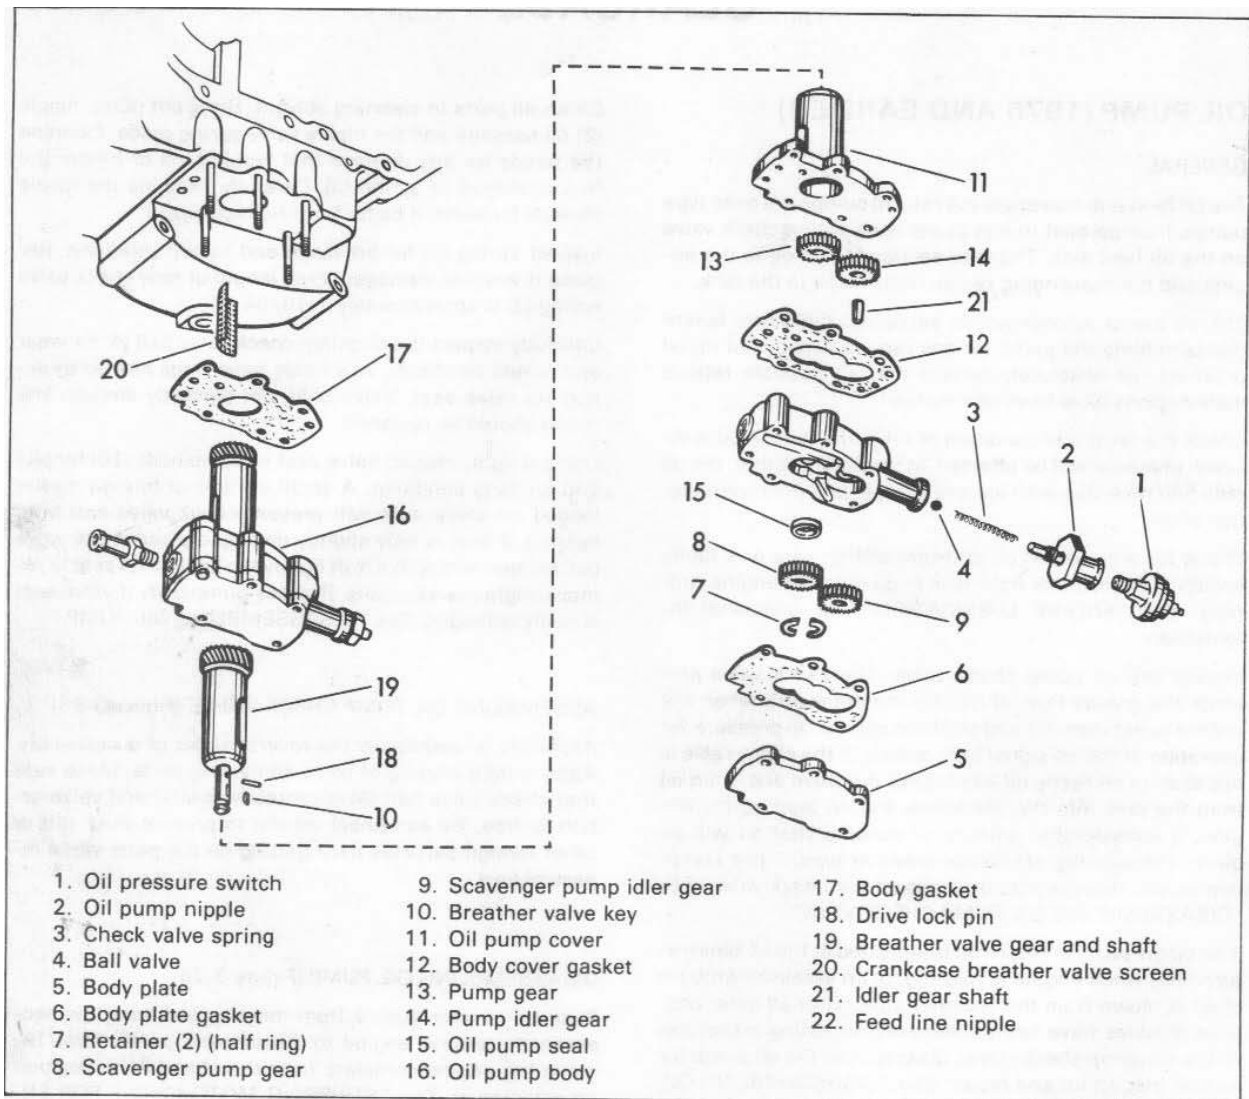

Figure 3-25. Oil Pump - Exploded View (1976 and Earlier)
When an oil pump has to be disassembled for repair, damage is usually caused by a foreign particle, such as a metal fragment, that has worked its way into the oil circulatory system. If this particle passes through the pump's protective screening, damage will result when it enters the pump. Primarily, the damage consists of a sheared oil pump drive lock pin (18, Figure 3-25), broken retaining ring (7, Figure 3-25) or subsequent damage to gears and other parts.
### DISASSEMBLING AND ASSEMBLING OIL PUMP CHECK VALVE (Figure 3-25)
### CLEANING AND INSPECTING OIL PUMP CHECK VALVE (Figure 3-25)
### ASSEMBLING OIL PUMP CHECK VALVE (Figure 3-25)
### DISASSEMBLING OIL PUMP (Figure 3-25)
See Figure 3-25. Thoroughly clean exterior of pump with cleaning solvent before further disassembly. Remove the five crankcase stud nuts that secure the oil pump to the crankcase. Slip the pump off the studs as one unit. If difficult to remove, take a piece of brass and tap on breather sleeve that extends into gearcase compartment. To disassemble the check valve see "DISASSEMBLING OIL PUMP CHECK VALVE."
**CLEANING AND INSPECTING (Figure 3-25)**
#### ASSEMBLING OIL PUMP (Figure 3-25)